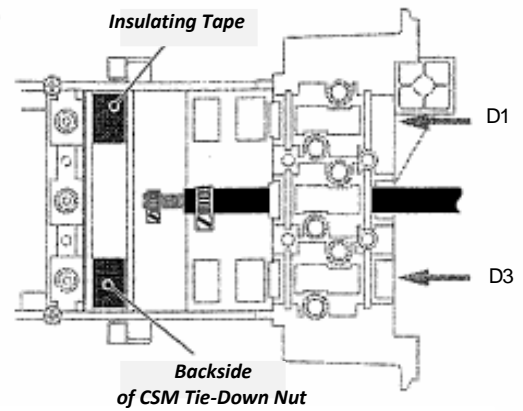

Figure 9b – Isolated D1 and D2
13.02 Terminate the bond strap ring terminal(s) from the cable(s) to be isolated to an inside ground terminal. Tighten the ground terminal hex nuts securely. See **Figure 9b**.